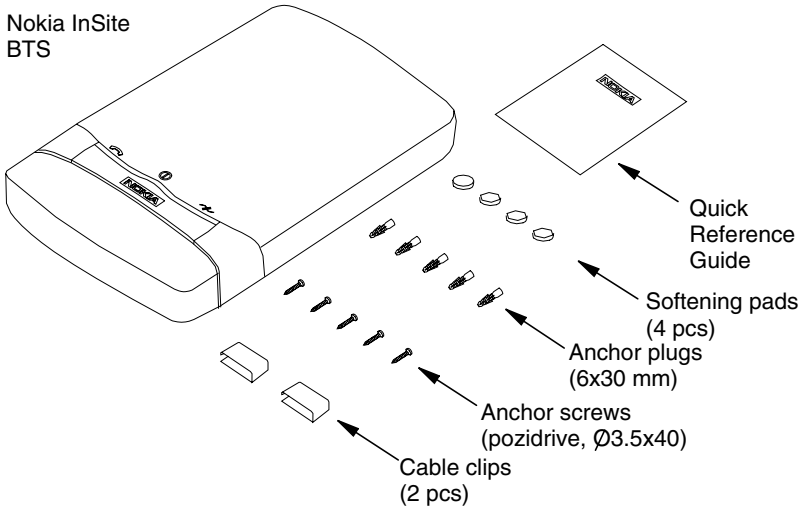

Figure 1. BTS package contents
- Figure 1. BTS package contents **10**